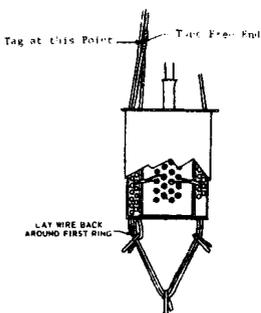

Figure 1. Drop Wire Disconnected
- 3.01 Disconnect the drop wire at the cable terminal for individual lines, party lines connected at terminal binding posts, generator feeds, and battery feeds which are not exposed to contact with foreign circuits of more than 300 volts potential, or with lightning disturbances (see Figure 1).